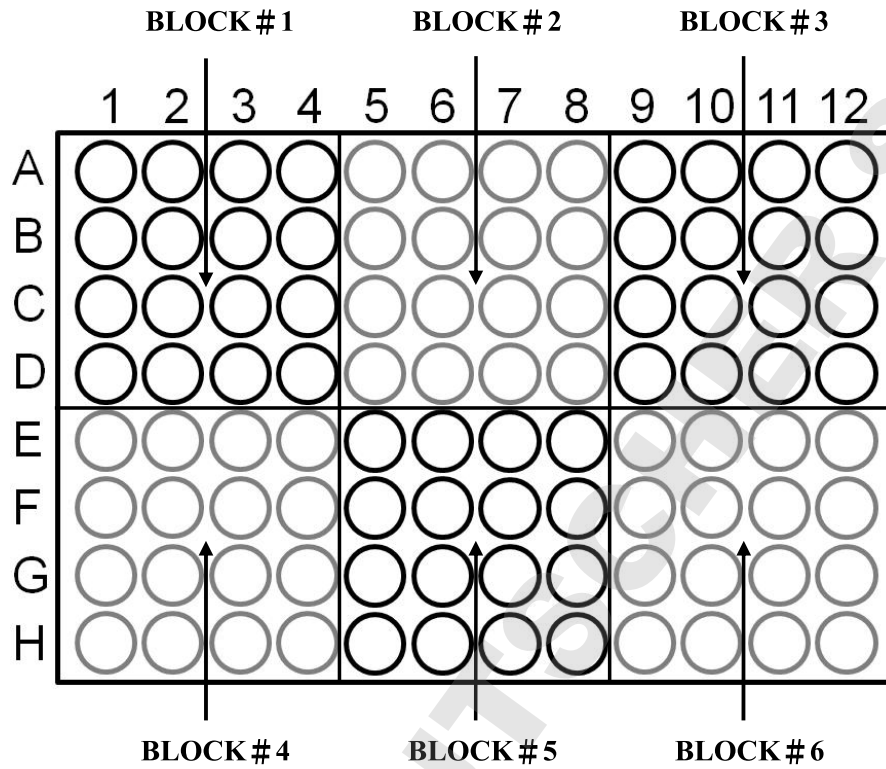

Figure 10. Block layout of 96-well model
2. The temperatures of all BLOCK offset are based on BLOCK #1. If press **F2:AUTO** to set gradient temperature, each BLOCK will add 4°C automatically based on the preceding BLOCK. Prior to press **F3:AVG.** users need to enter BLOCK #6 setting, and the screen will show the calculated temperature gradient from BLOCK #1 to BLOCK #6 as show in Figure 10. This reflects the variation of the temperature from the BLOCK #1 (coolest) to the BLOCK #6 (hottest).